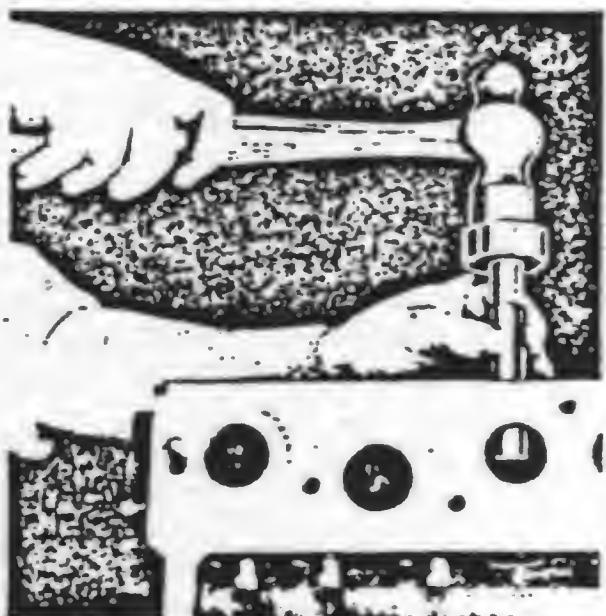

FIG. 20 INSTALLING VALVE GUIDES
(2) The valve guides are installed with a replacer or a driver as shown in (Fig. 20). Taking a piece of half-inch round stock 6" long and turning down one end to  $\frac{3}{8}$ " diameter 2" long will make a suitable driver.